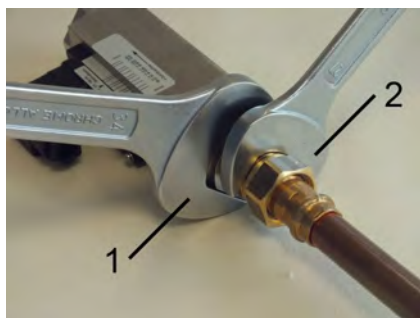

Fig. 11: Screw in the device
2. ➤ Fasten the adapter union of the pipeline with an appropriate spanner (Fig. 11/2). When doing so, lock the process connector in place to prevent slip, using a suitable spanner (Fig. 11/1).